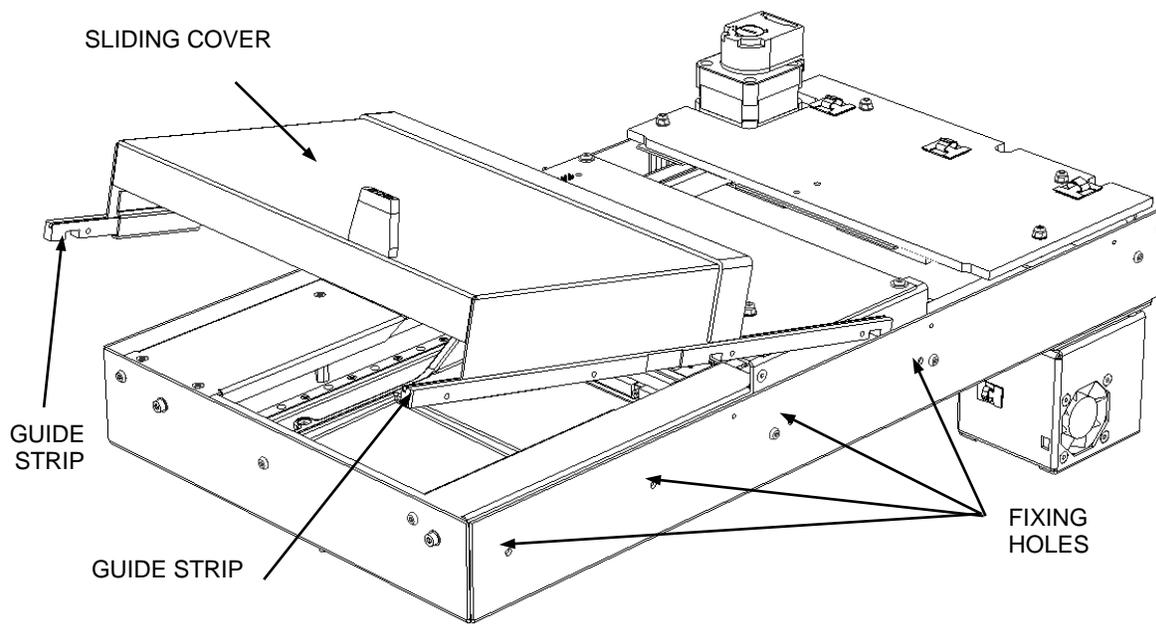

Figure 12-7: Replacing the Sliding Cover
2. To replace the sliding cover, slide two cover guide strips into sliding cover assembly (Figure 12-7). Feed the sliding cover assembly down in to the chassis so that the guide strips line up with the four fixing holes in either side of the chassis.